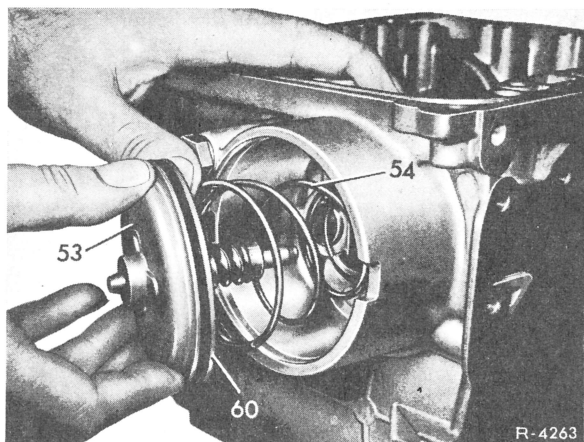

Fig. 23
**39** Remove brake band piston B 3 (53) and truncated cone spring (54) (Fig. 23).
**45** Insert brake band piston B 3 (53) with a new lip sealing ring (60) and compression spring (54) into transmission case (Fig. 23).